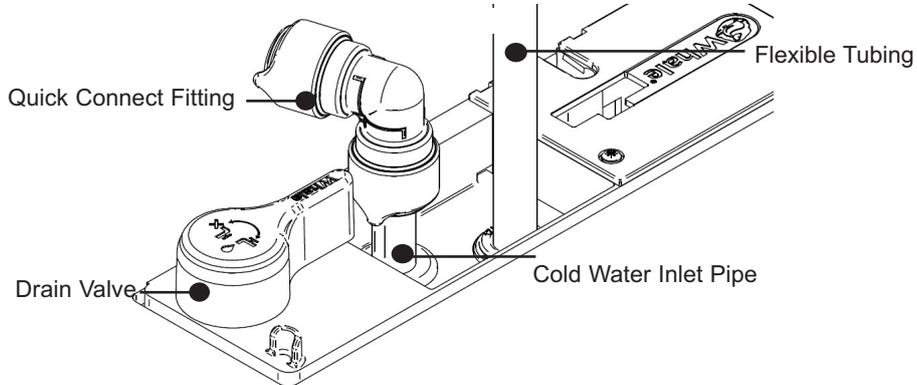

Fig. 30 Connect Cold Water Supply
Step 8 Connection to Cold Water Supply (see Fig. 30)